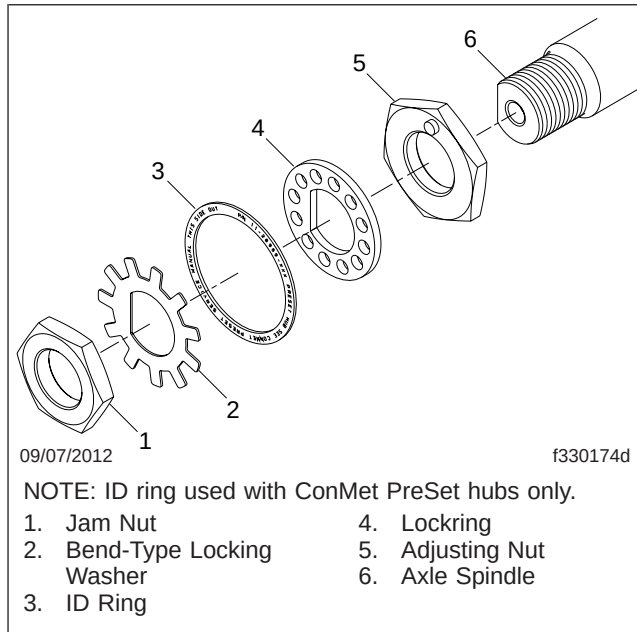

Fig. 1, Double Spindle Nut Set
ConMet PreSet hubs may use a double spindle nut system. See Fig. 1. A plastic ID ring between the adjusting nut and locking washer indicates that a ConMet Preset hub has been installed.
1. Install the adjusting nut onto the axle spindle, and tighten it 300 lbf·ft (407 N·m). See Fig. 1.